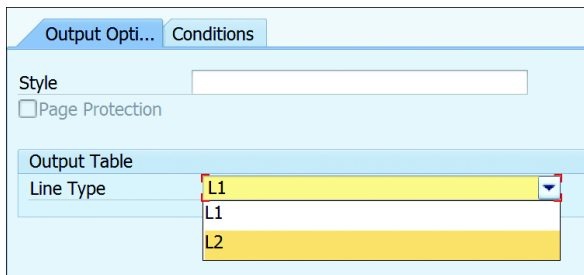

Figure 18.47 Table Line
2. Under the OUTPUT OPTIONS tab, select the LINE TYPE that was previously defined for the table (see Figure 18.47). The number of cells created within the node is based on the number of columns defined in the line type (Figure 18.48). In each cell, you can create the text element using the context menu to print the text or field.